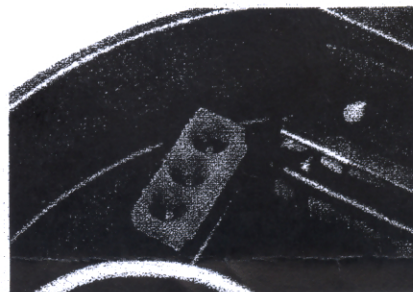

Figure 2: Connector in 3.0 control
6. Attach the connector from motor to corresponding connector on the new 3.0 control (see Figure 2).